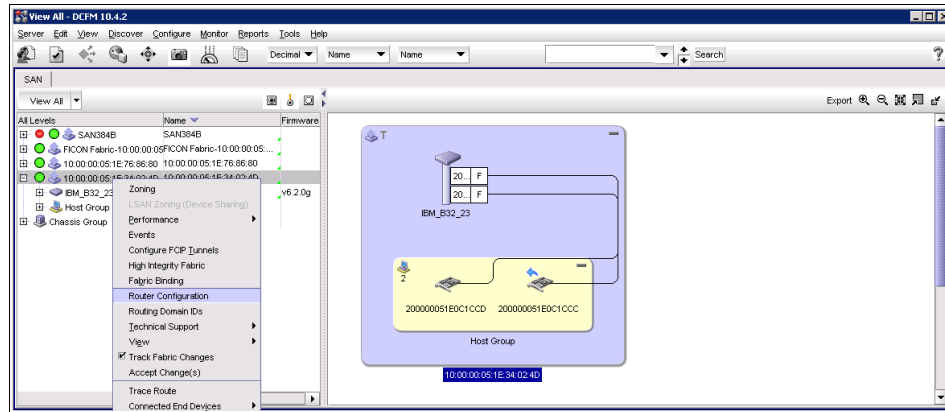

Figure 9-22 DCFM FC-FC routing menu
1. Select the edge switch to be connected to the router, then right click **Configure** → **Routing** → **Configuration**, or right-click the edge fabric in the connectivity map or the Product List, shown in Figure 9-22.